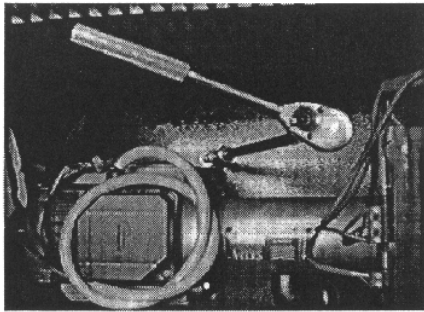

Figure 1
6. Remove the 4 no. flex head (10mm AF) self tapping screws holding down the motor/pump unit to the bottom of the cooler box. (Fig 1)